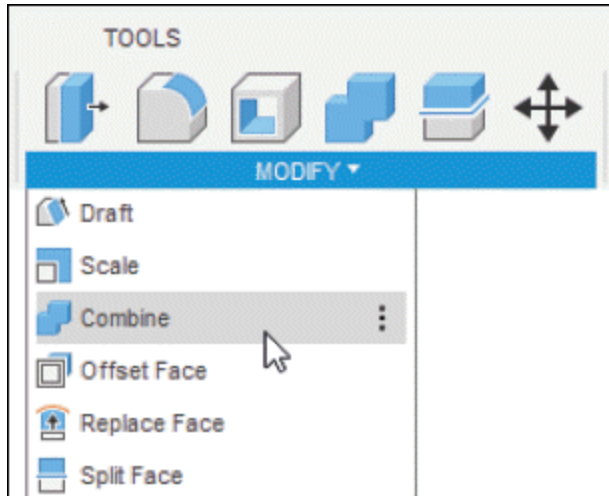
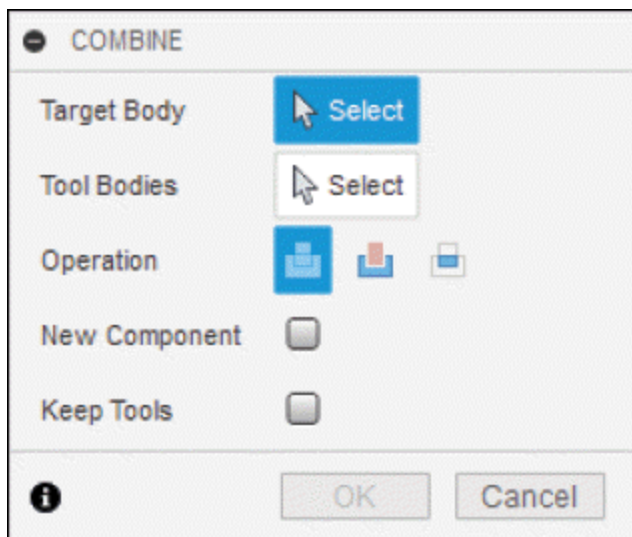

Figure-36. Combine tool
Figure-37. COMBINE dialog box
- Select **Combine** tool of **MODIFY** drop-down from **Toolbar**; refer to Figure-36. The **COMBINE** dialog box will be displayed; refer to Figure-37.